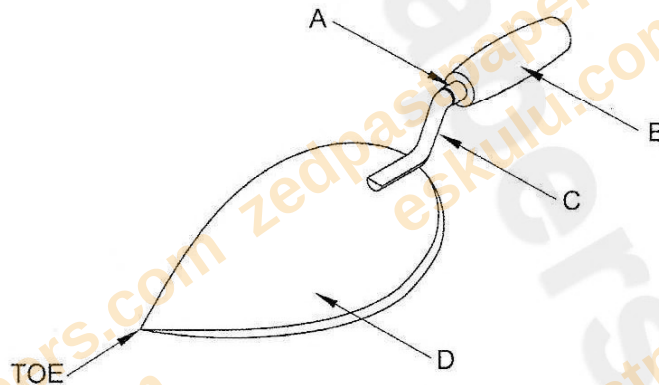

Figure 16
- 34 (a) **Figure 16** shows a Building Trowel.
Question SECTION C, Q34. Building trowel (Figure 16) and other building tools.